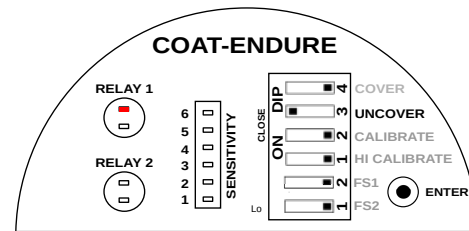

Figure 10: Uncover Delay Switch Position
- To set the Uncover Delay, set the UNCOVER switch to CLOSE position as shown in Figure 10.